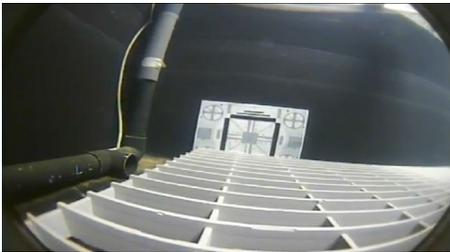

Figure 1: Sample Image
The Wide-i SeaCam does an exceptional job at giving a high quality wide angle image even in very low light conditions. This camera is capable of producing an incredible 125° (H) x 89° (V) degree field of view under water. Just like with any wide angle lens, users should be aware of vignetting effect (black corners). *Figure 1* below shows a standard still image taken from the Wide-i SeaCam clearly showing the vignetting effect on the four corners of image.